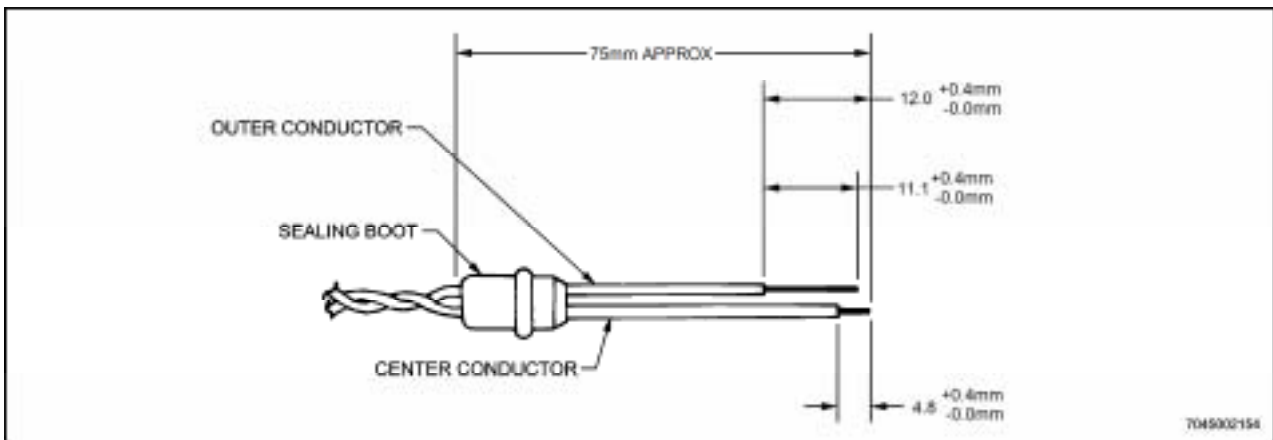

Figure 12-48 Stripping Dimensions and Sealing Boot Before Crimping the Contact
- Install the sealing boot onto the untwisted wire prior to stripping the wires. (See Figure 12-48.)
- Strip the wires to the dimensions indicated. (See Figure 12-48.) All cuts are to be square and sharp. Do not nick the conductors when stripping the insulation.
- c. Fold the longer stripped wire to a 5.5mm dimension. (See Figure 12-48.)